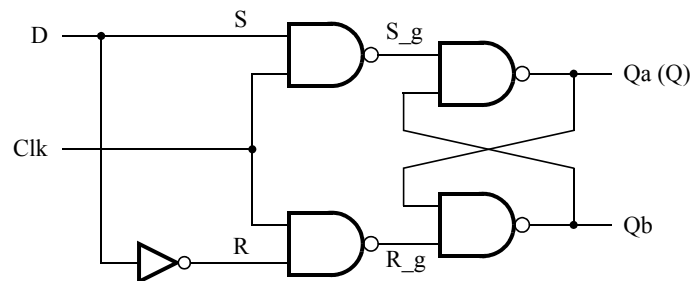
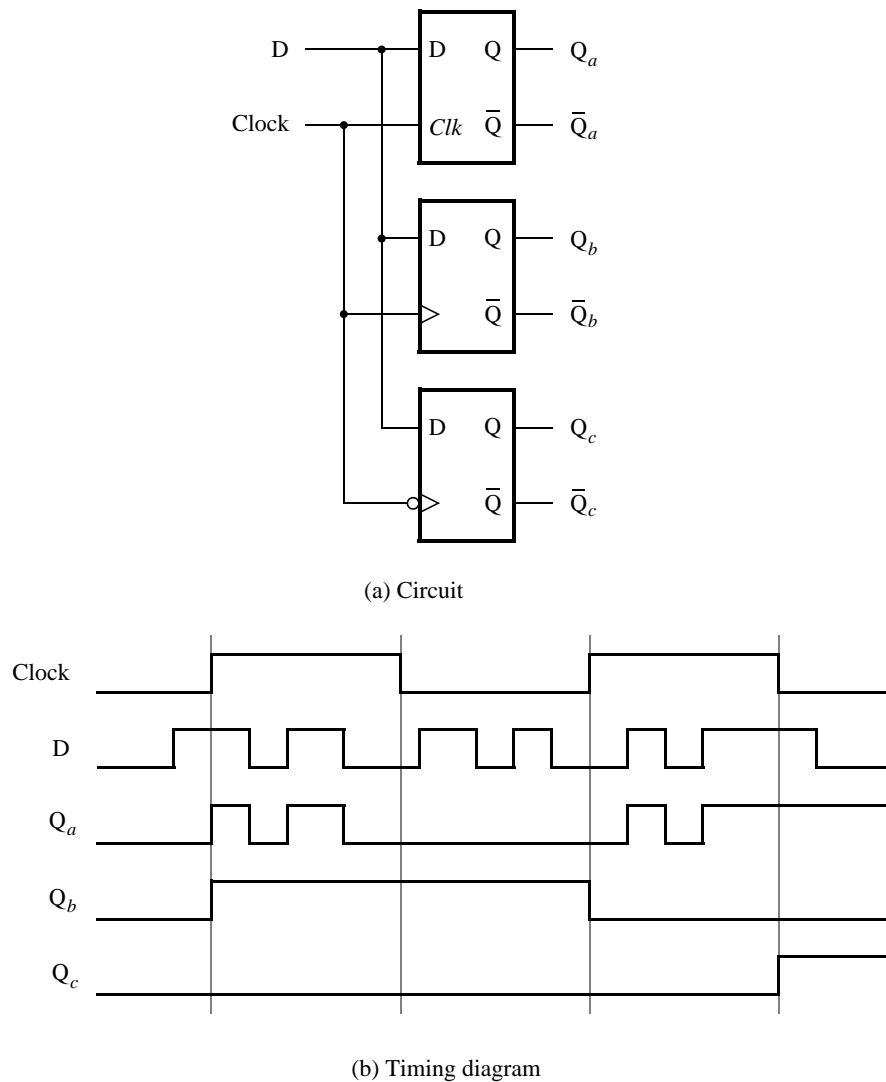

Figure 4. Circuit for a gated D latch.
Figure 6. Circuit and waveforms for Part IV.
Figure 4 shows the circuit for a gated D latch.
Figure 6 shows a circuit with three different storage elements: a gated D latch, a positive-edge triggered D flip-flop, and a negative-edge triggered D flip-flop.
2. Write a Verilog file that instantiates the three storage elements. For this part you should no longer use the `/* synthesis keep */` directive from Parts I to III. Figure 7 gives a behavioral style of Verilog code that specifies the gated D latch in Figure 4. This latch can be implemented in one 4-input lookup table. Use a similar style of code to specify the flip-flops in Figure 6.
4. In QSim, create a Vector Waveform File (.vwf) which specifies the inputs and outputs of the circuit. Draw the inputs *D* and *Clock* as indicated in Figure 6. Use functional simulation to obtain the three output signals. Observe the different behavior of the three storage elements.